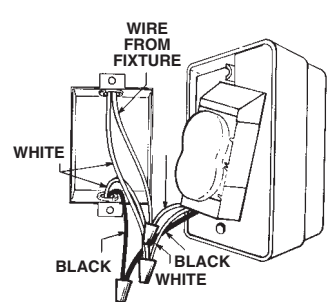

FIGURE 2
3. Connect red timer wire to wire from fixture using wire connector. Connect black timer wire to the "hot" (usually black or red) wire in junction box using wire connector. Cut white wire in junction box (or open splice) and strip 1/2" of insulation on both wires. Connect white timer wire to white wires in junction box using wire connector. (See Fig. 2)
6. Place all wires inside junction box. Fit timer over junction box first, making sure that all wires and twist on wire connectors clear the back of timer motor. **DO NOT FORCE.** Next, install timer using (2) mounting screws furnished.